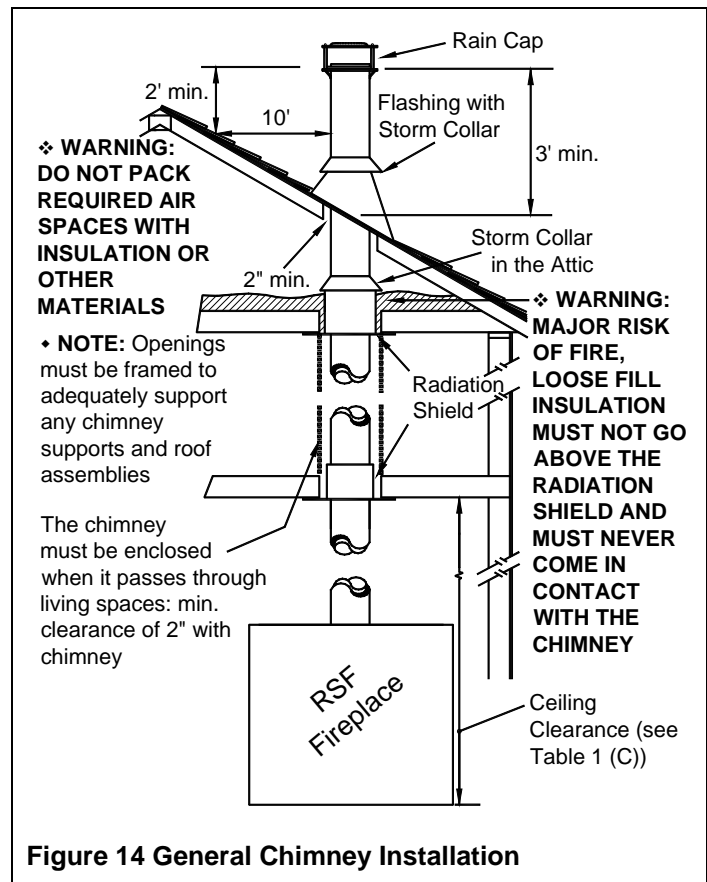

Figure 14 General Chimney Installation
- From below, install a radiation shield in each floor through which the chimney passes. At the attic level, install a radiation shield and a storm collar as shown in Figure 14.